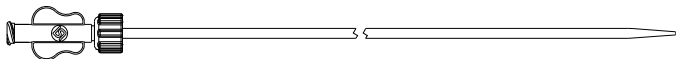
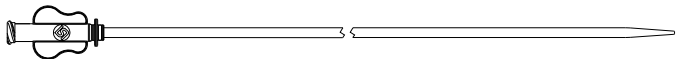

Fig.3 Dilator(800 series)
Fig.4 Dilator(550/700/900 series)
- 2) Dilator (Fig. 3 & Fig. 4)